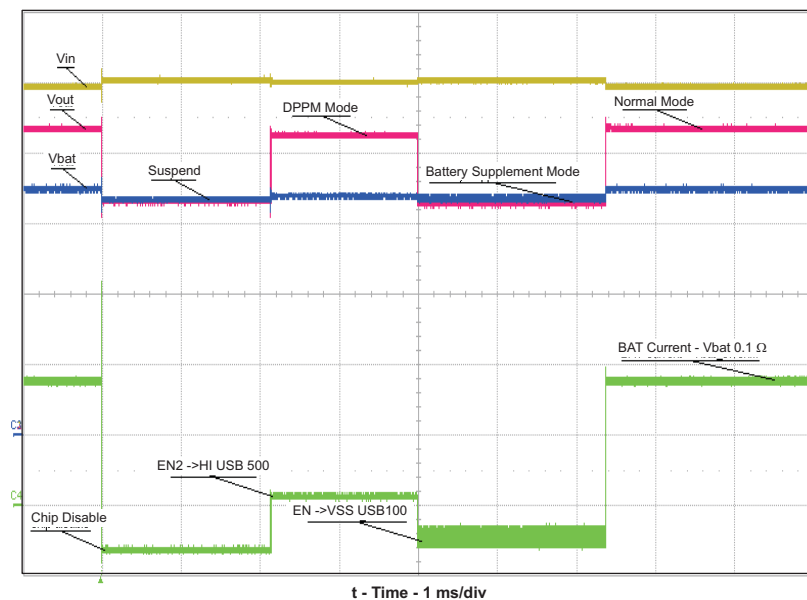

Figure 2. Modes of Operation Tested in Steps 11 Through 13
6. Verify that V_{OUT} for bq24072 is ~ 200 mV above the battery voltage or a minimum of 3.4 Vdc. For bq24073/4 verify that V_{OUT} is ~ 4.4 Vdc. Verify that bq24075/9(T) is ~ 5.5 Vdc for $V_{IN} > 5.6$ V and equal to V_{IN} for $V_{IN} < 5.6$ V.
10. Set JMP5 (EN1) to HI, and verify that the chip has been disabled, D1 (CHG) has turned off, and the P/S#1 current has dropped to zero. The internal battery FET must be on, connecting the BAT pin to the OUT pin. Verify that the voltage on the OUT pin is close to the battery voltage. See Figure 2 for